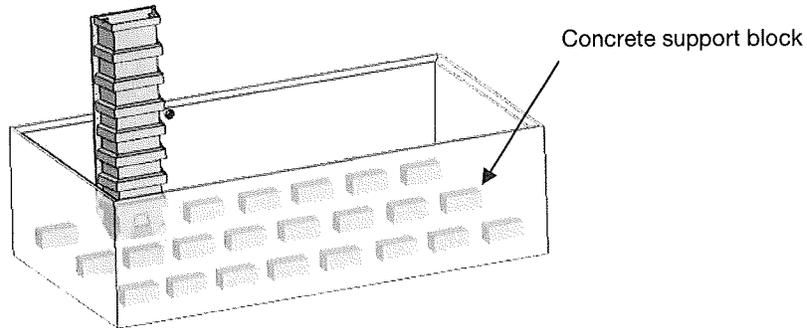

Figure 6
1.6 Install the concrete support blocks as illustrated on Figure 6.